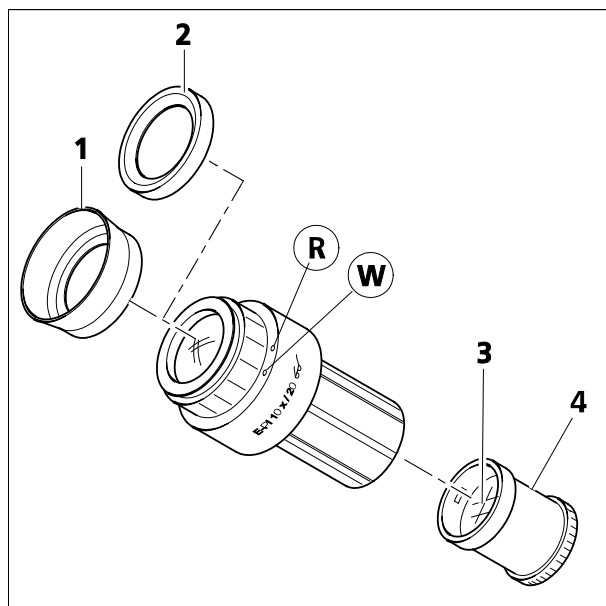

Figure 3-5 Inserting an eyepiece reticule
The slight image displacement caused by the additional length of the glass path is taken into account on the diopter scale by the fact that the zero position is not indicated by the white dot (Figure 3-5/W) but rather by the red dot (Figure 3-5/R).
To allow easy replacement, the manufacturer has bonded the eyepiece reticules (Figure 3-5/3) into screw-in stop parts (Figure 3-5/4). Complete stop parts with glued reticules are available directly from Zeiss.
- Unscrew the existing stop part (Figure 3-5/4) with the eyepiece reticule (Figure 3-5/3) from the eyepiece. Screw in the stop part with the eyepiece reticule.
- To do so, pull off the glass protection rings (Figure 3-5/2) from the eyepieces, and put on the eyecups (Figure 3-5/1).